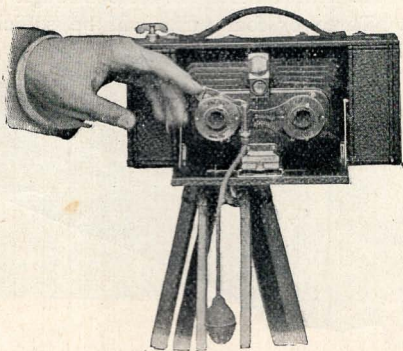

FIG. 8.—Making a Time Exposure.
1. Put the camera in position on a tripod or some firm support (Fig. 8).